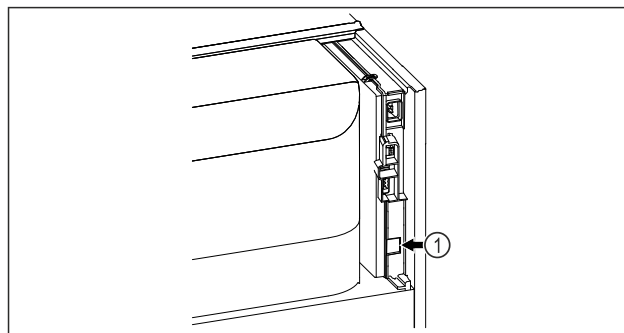

Fig. 143
- ❑ SmartModule Fig. 143 (1) is in use.